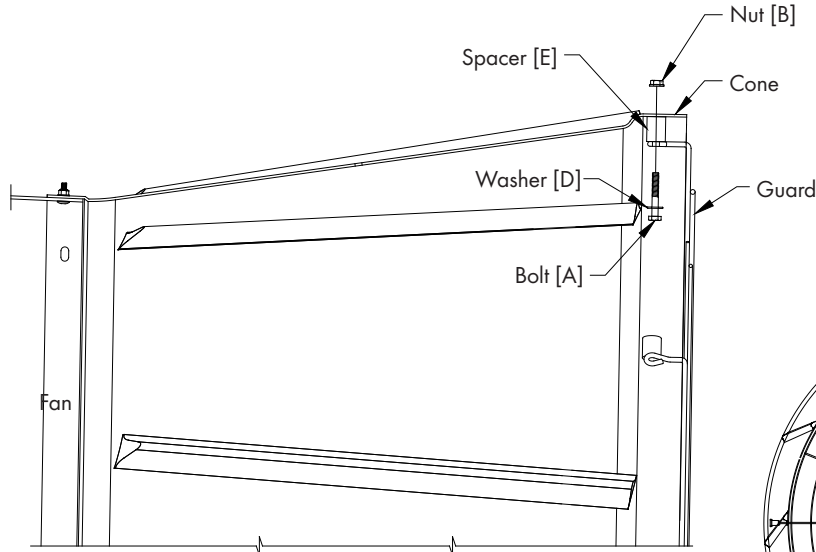

Figure 5A
Insert Guard into Cone with the Guard Eyelets facing away from you (in). Make sure each Eyelet lines up with a hole in the cone sections and fasten in place with (8) Hex Bolts [C], Washer [D], Spacer [E] and Nuts [B]. DO NOT tighten bolts at this time. See Figure 5A and 5B.